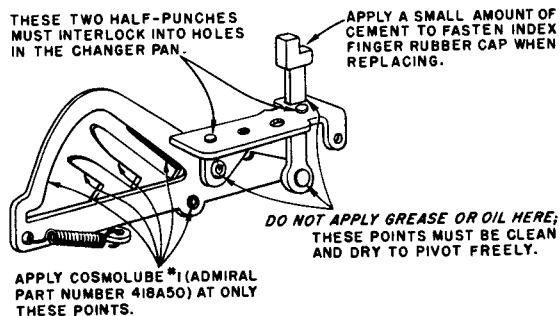

Figure 10. Set-Down Index Assembly.
**DO NOT** apply GREASE to the TRIP SLIDER (49). Under normal operating conditions, the motor should never require lubricating. When lubricating the changer, keep oil or grease away from turntable.
Before lubricating the set-down index (69), see figure 10. Grease or oil must not exist at certain points of the set-down index. This assembly must be clean and dry at these points in order to pivot freely of its own weight.
Although the set-down index is factory assembled and requires no adjustment, some care is required when it is being replaced. The top surface of the set-down index bracket mounts to the changer pan and is positioned by two 1/8 inch diameter half-punches which interlock in holes in the changer pan. A #6-32 machine screw secures the set-down index in place. See figure 10.